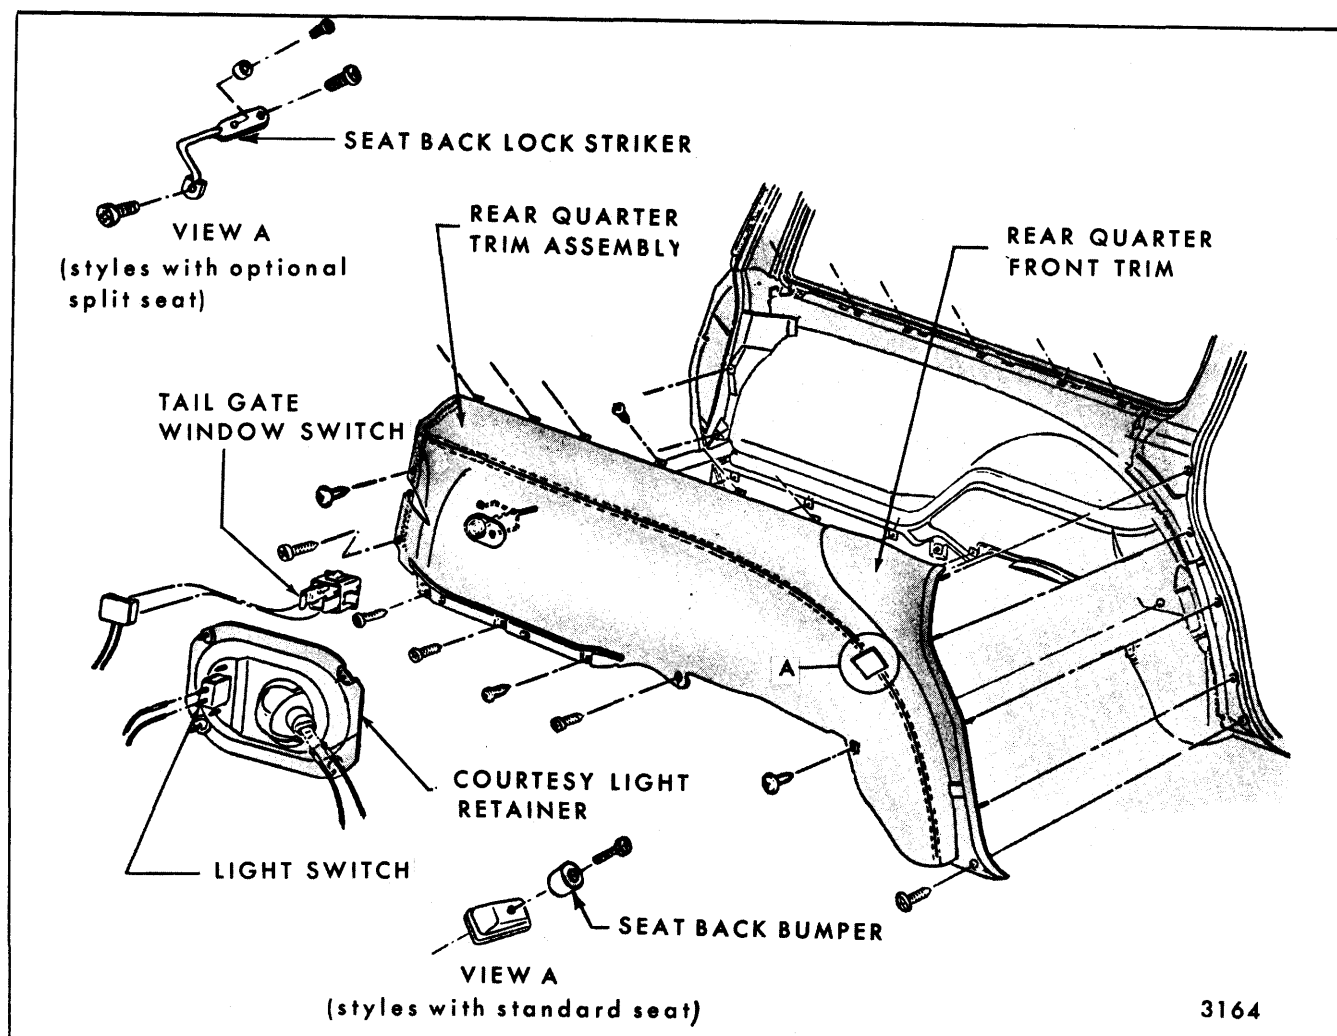

Fig. 14-32—Rear Quarter Trim Panel (Left Side) - "B" Station Wagon
8. Remove seat back bumper or seat back lock striker (only on styles with optional split seat), as shown in Fig. 14-32.
9. Remove all screws securing trim panel to rear quarter inner panel (Fig. 14-32).
10. With a suitable flat-bladed tool, carefully disengage trim retainers from rear quarter inner panel along leading edge of rear body lock pillar (on front edge of rear quarter front trim assembly) (Fig. 14-32).
11. Lift assembly upward slightly to disengage from rear quarter inner panel and remove assembly from body. On styles equipped with courtesy lamp disconnect feed wire from switch and lamp (Fig. 14-32).